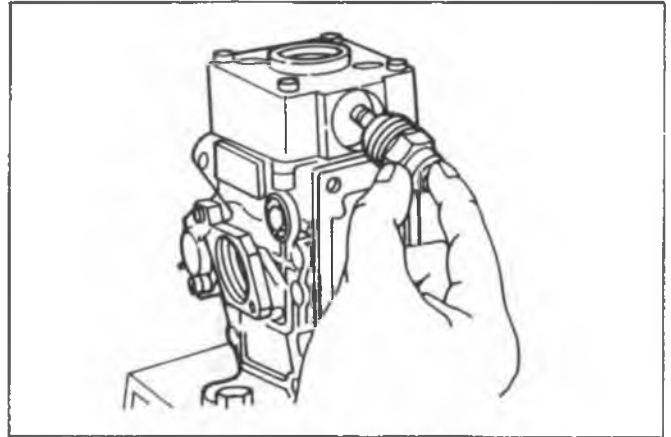

Fig. 4-37 Fuel Cut Off Solenoid
1. Use a 24mm wrench to remove the fuel cut-off solenoid and the "O" ring. Be careful not to lose the spring and armature when removing the solenoid (Fig. 4-37).